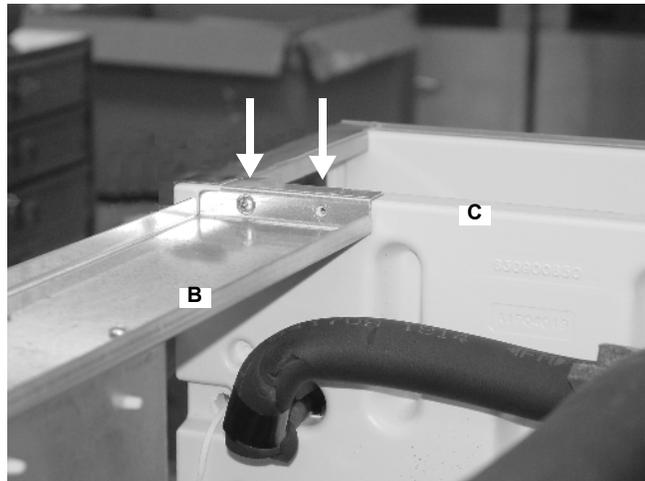

Figure 41.
51. Attach the support brace (B) to the evaporator bulkhead (C) with 2 Phillips head screws (Figure 41).